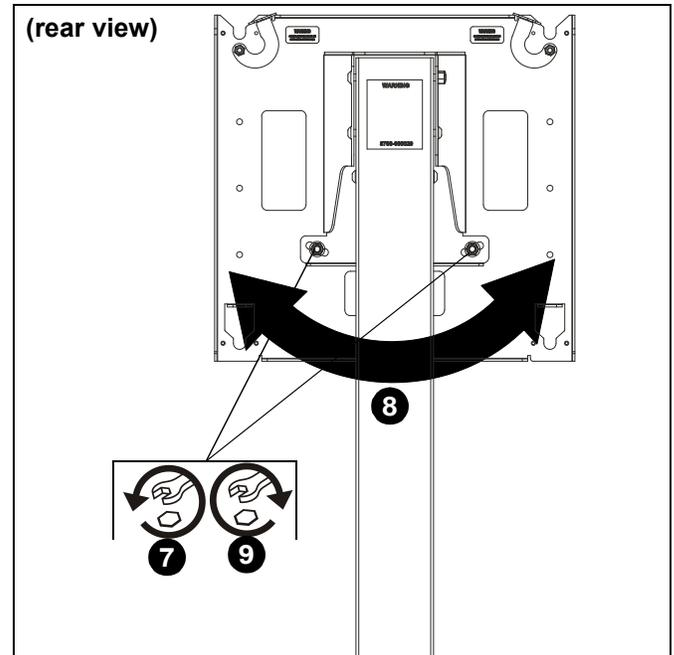

Figure 36
7. Loosen nuts on back of faceplate. (See Figure 36)
8. Adjust roll as desired. (See Figure 36)
9. Tighten nuts on back of faceplate. (See Figure 36)